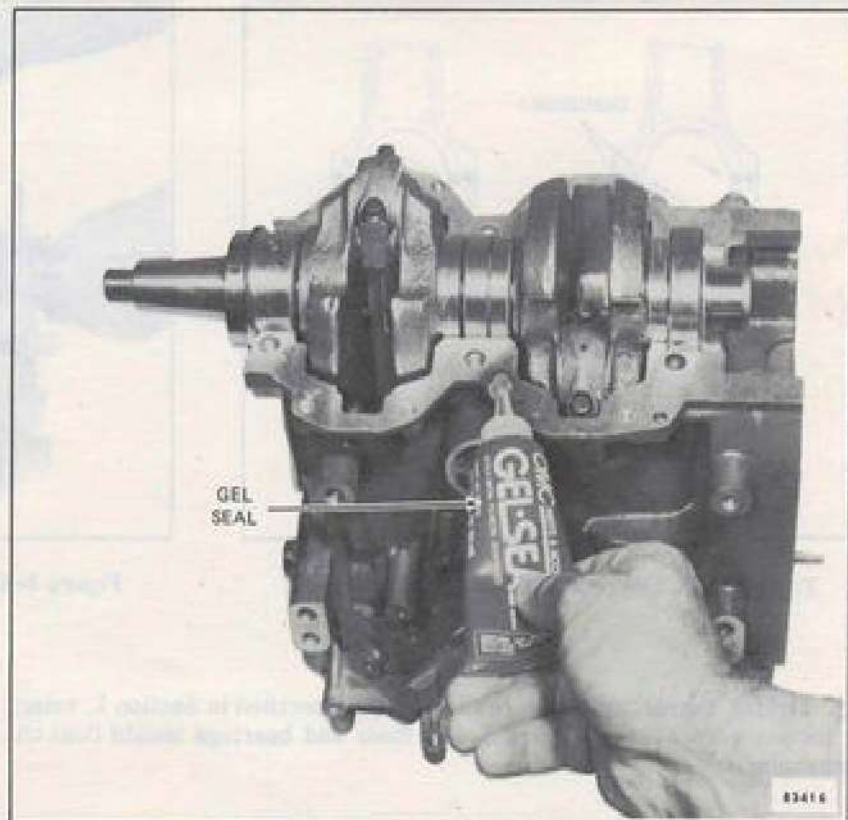

Figure 5-43. Applying OMC Gel Seal
a. Clean the crankcase flange with OMC Locquic Primer (P/N 384884). Squeeze out a 1/4" (6 mm) ball of Gel Seal and dab it along one crankcase flange. Keep it 1/4" (6 mm) away from each labyrinth seal. See Figure 5-43. Treat the other crankcase flange the same way.